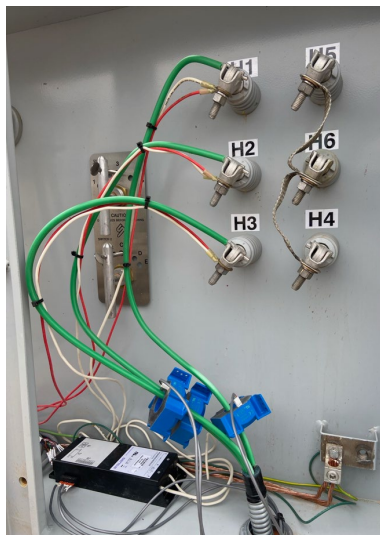

Figure 4.7—PowerDAQ in secondary (load) side of transformer cabinet
5. Disconnect the motor/surface cable (the green cable in Figure 4.7) from the secondary (load-side) transformer bushings using a wrench or adjustable wrench.